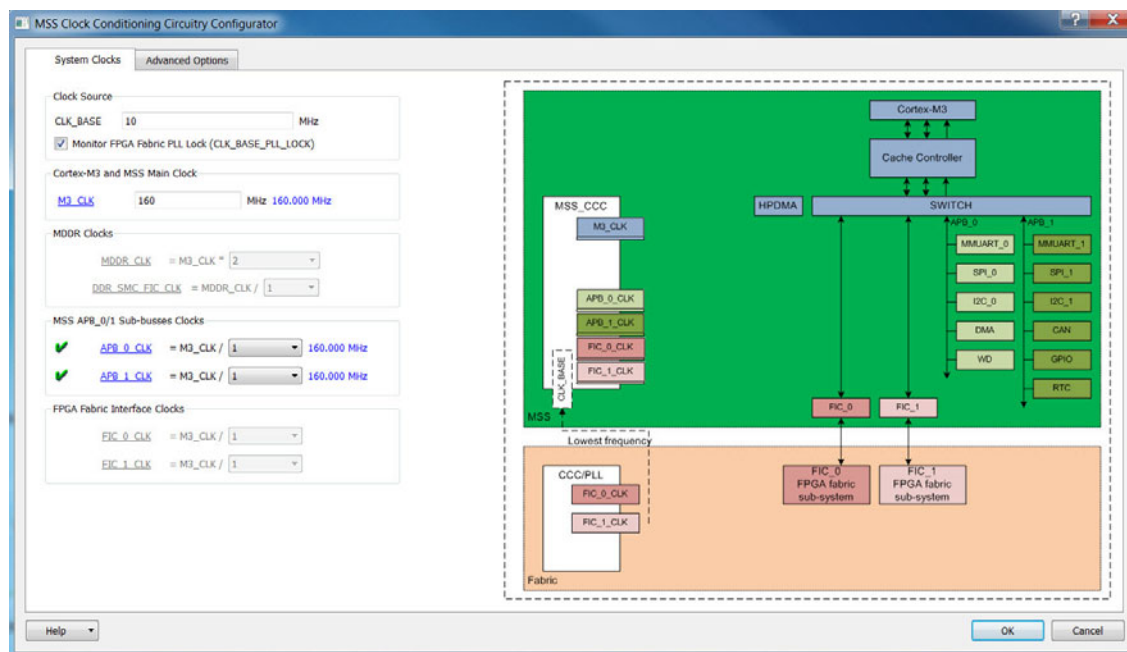

Figure 2-5 • MSS Clock Conditioning Circuitry Configurator
4. Set the MSS_CLK Configurator options as follows (shown in Figure 2-5):